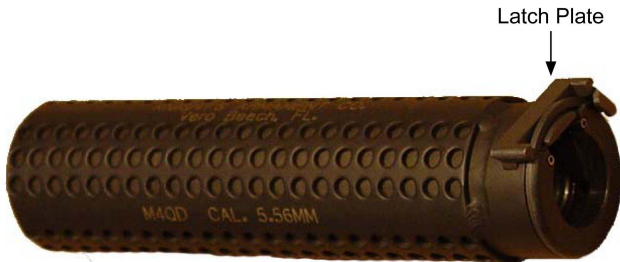

Figure 1-8. QD Sound Suppressor
- (1) The QD suppressor provides a quick means to muffle the weapon's muzzle blast, flash and noise for enhanced operational security. The model QD sound suppressor kit includes the QD suppressor and a replacement compensator for M4A1 CQBW carbines. Refer to Figure 1-8.